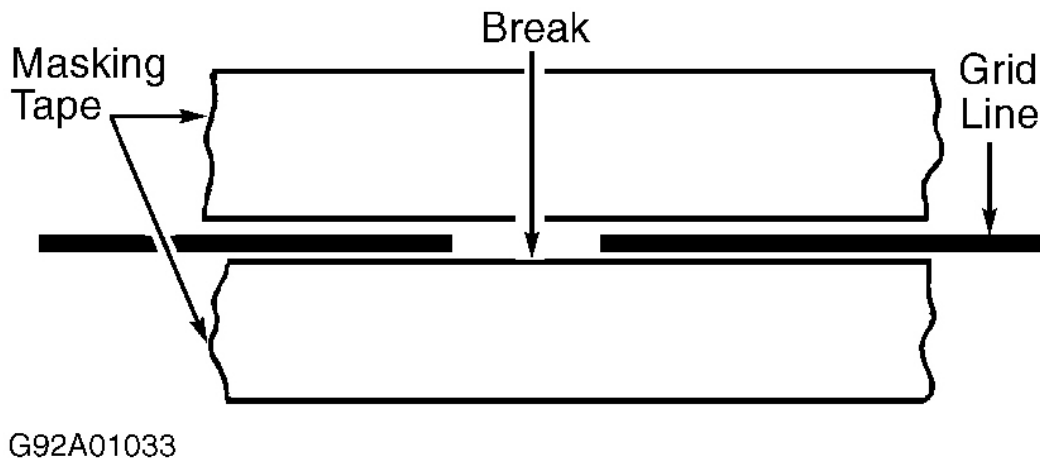

Fig. 2: Repairing Grid Line
2. With glass at room temperature of 70-90°F (20-32°C), position masking tape along both sides of grid line at damaged area. See **Fig. 2** . Apply grid repair material to grid and carefully remove masking tape. Holding heat gun 1-2" (25-50 mm) from repair area, apply heat at 500-700°F (260-370°C) for 2-3 minutes. If heat gun is not available, allow repair area to air dry for at least 24 hours.